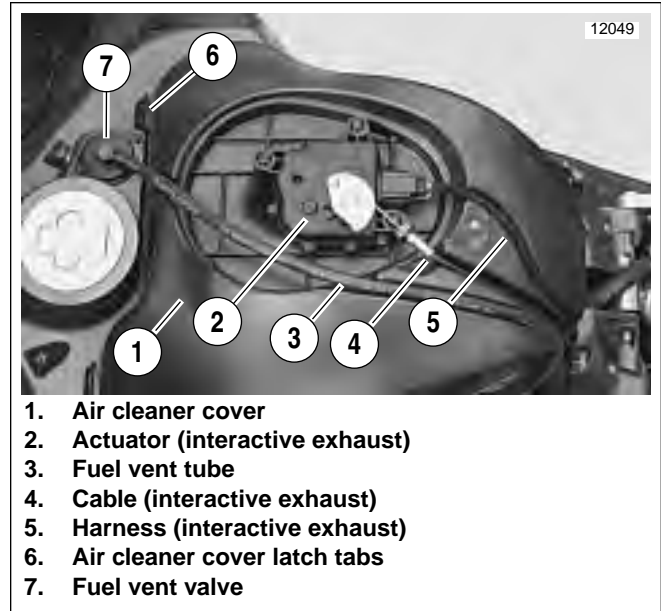

Figure 1-40. Air Cleaner Cover, Fuel Vent Tube and Fuel Vapor Valve (XB12R)
3. See Figure 1-40. Remove fuel vent tube (3) from vapor valve at front of air cleaner cover and groove on top of air cleaner cover (1).
3. Install air cleaner cover by latching six latch tabs (2) to base plate.
5. See Figure 1-40. Position fuel vent tube in groove on top of air cleaner cover and connect to fuel vent valve (7). Secure vent tube to fuel vent valve with **new** cable strap.